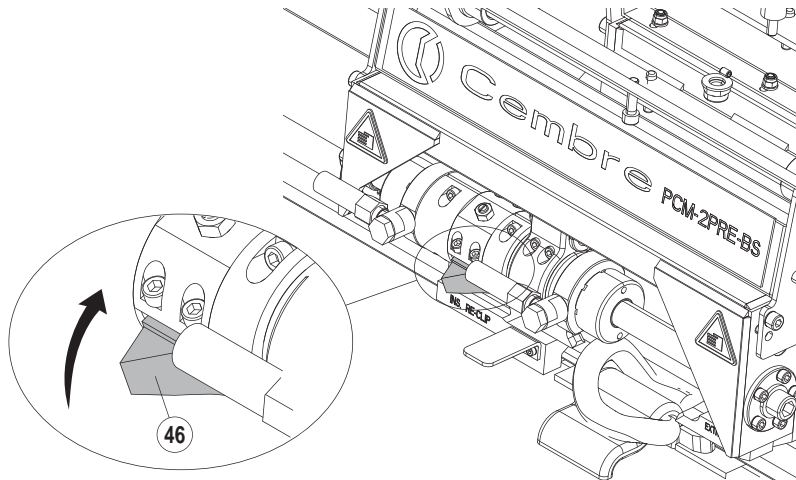

FIG. 12
- **With engine switched off**, manually turn upwards the insertion stop (46) in to its rest position, as allowed by the pin (see Fig. 12);
- ⚠ **Before extracting RE-clips it is important that the insertion stop (46) is in horizontal position.** Otherwise the stroke of both rams is not enough to locate the machine on the clip retention plates.
- During extraction the insertion stop (46) must be kept in rest position to avoid obstacles.